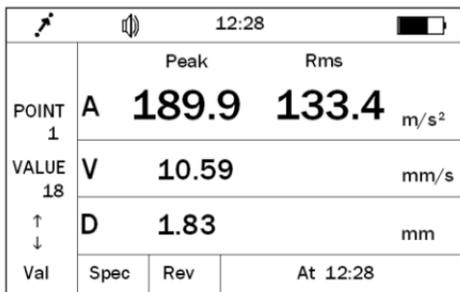
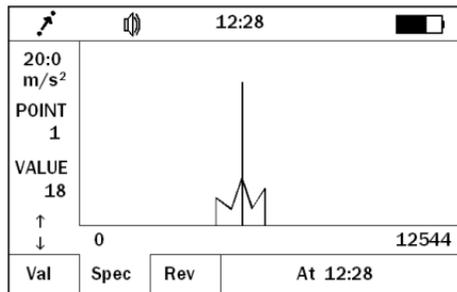
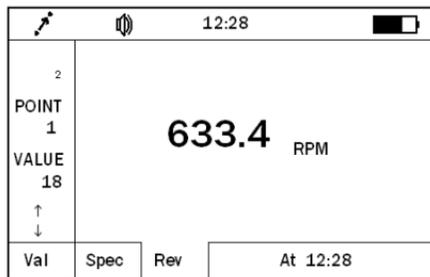

Figure 4.1a Common mode
Figure 4.1b Special mode
Figure 4.1c Rev mode
- Measure model: Press  to select the measure model: Common model, Spectrum model and Rev model(refer to Figure 4.1a, Figure 4.1b, Figure 4.1c).
Common mode: show the main parameters (see figure 4.1a)
Spectrum mode: show the spectrum chart (see figure 4.1b)
Rev mode: show the Rev value (see figure 4.1c)